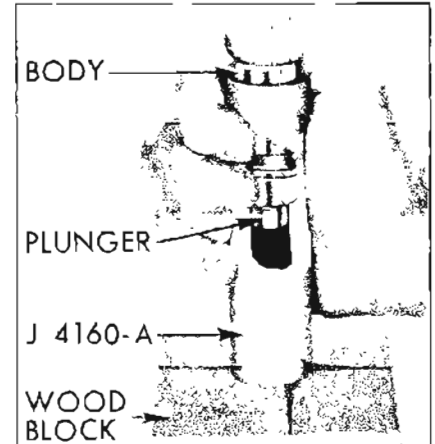

Figure 2-23—Removing Stuck Plunger With J-4160-A
6. If a plunger sticks in lifter body place lifter in large end of Plunger Remover J-4160-A, with plunger inward. While holding lifter with thumb, rap the open end of remover against a block of wood with just enough force to jar the plunger from body. See Figure 2-23.